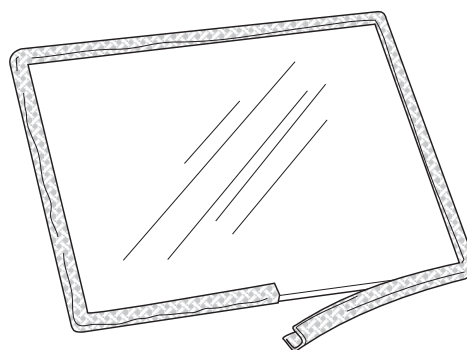

Figure 32. Wrap the gasket around the glass panel.
4. Remove the old gasket material. See fig. 32. Glass Panel or Gasket Replacement